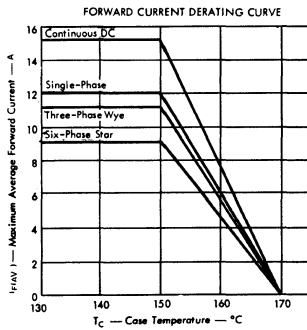

FIGURE 1
- NOTES: 1. These values may be applied continuously under single-phase 60-Hz half-sine-wave operation with resistive load. The peak reverse voltage and average current ratings apply simultaneously. Above  $150^{\circ}\text{C}$ , derate  $I_0$  according to Figure 1.